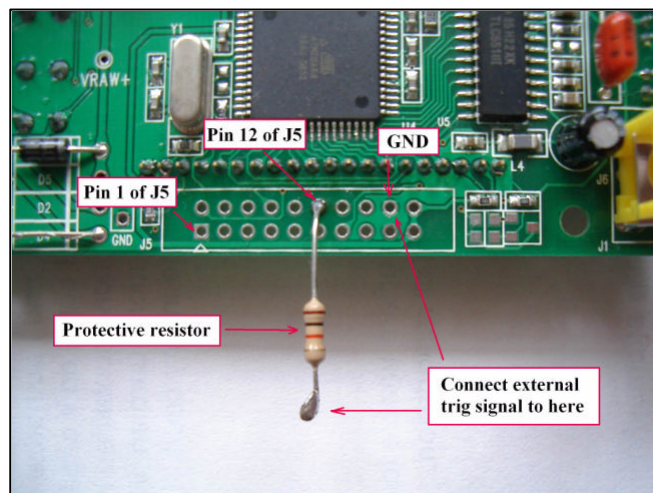

Fig. 1
- 1) Connect to pin 12 of J5 directly through a 2K – 10K (1/4W) resistor. (see Fig. 1). The resistor protects scope from being damaged and can not be omitted.